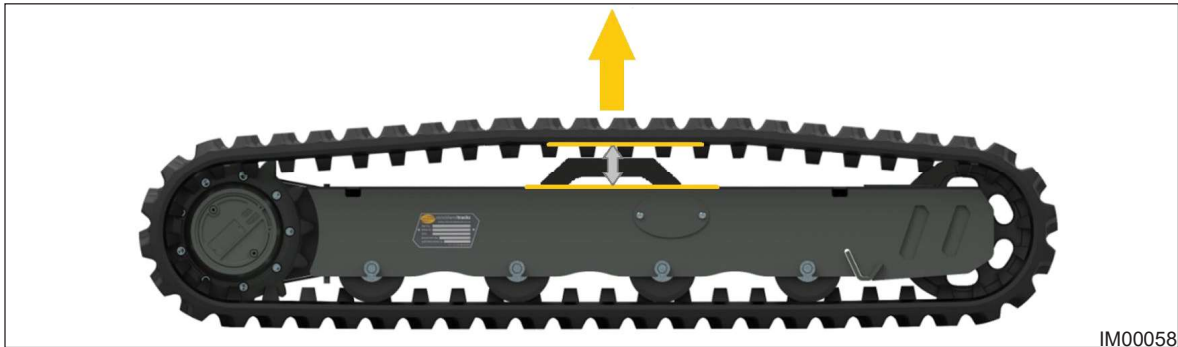

Fig: 11.2 - Measurement
4. Carefully pull up centre of belt and measure distance between top of frame and the belt's running surface (Fig: 11.2).